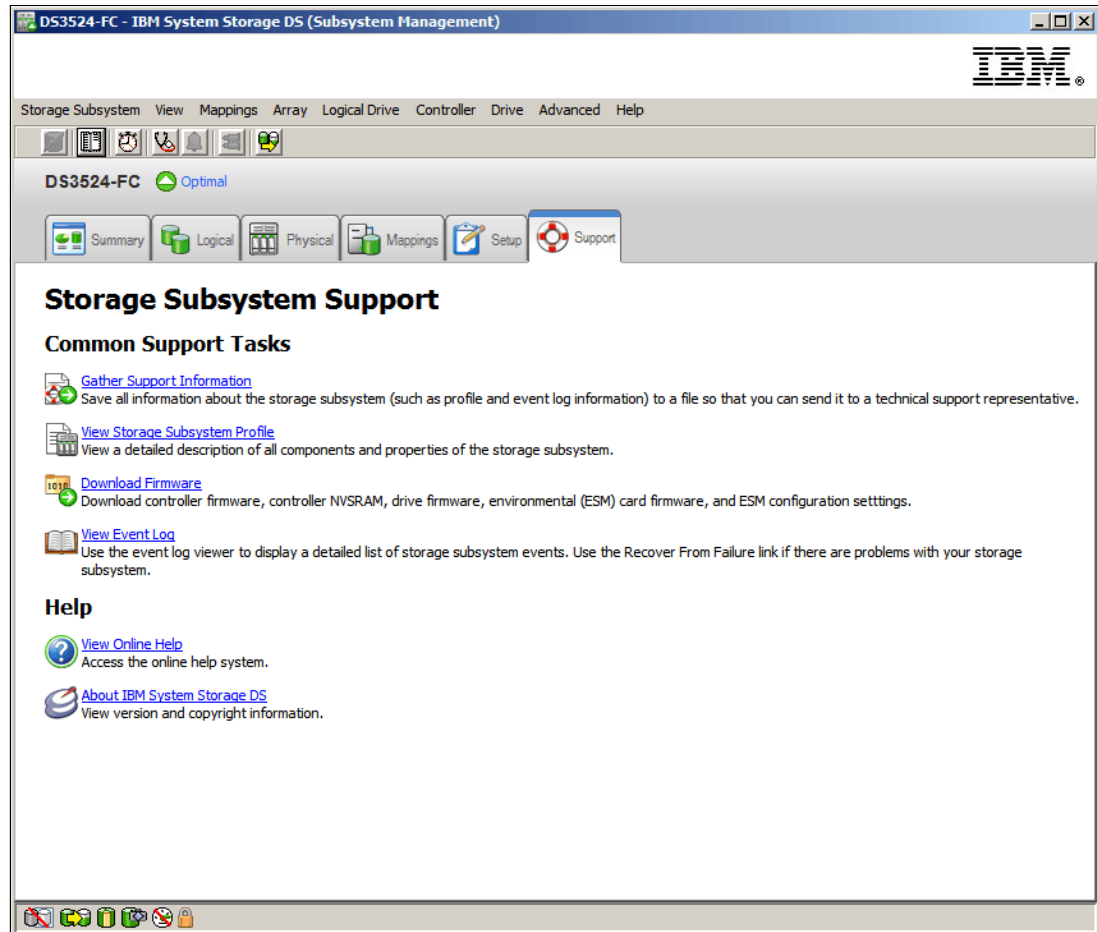
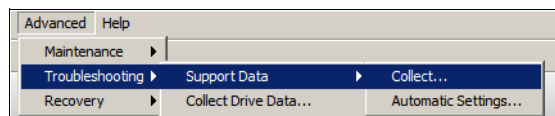
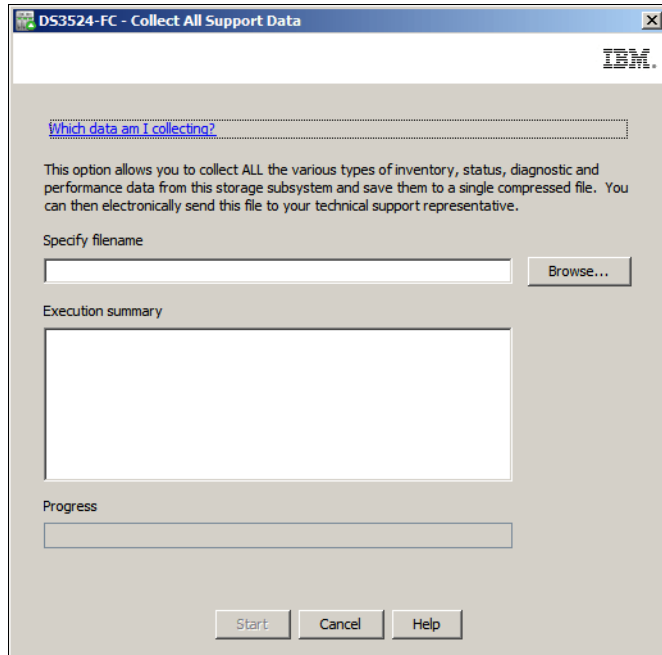
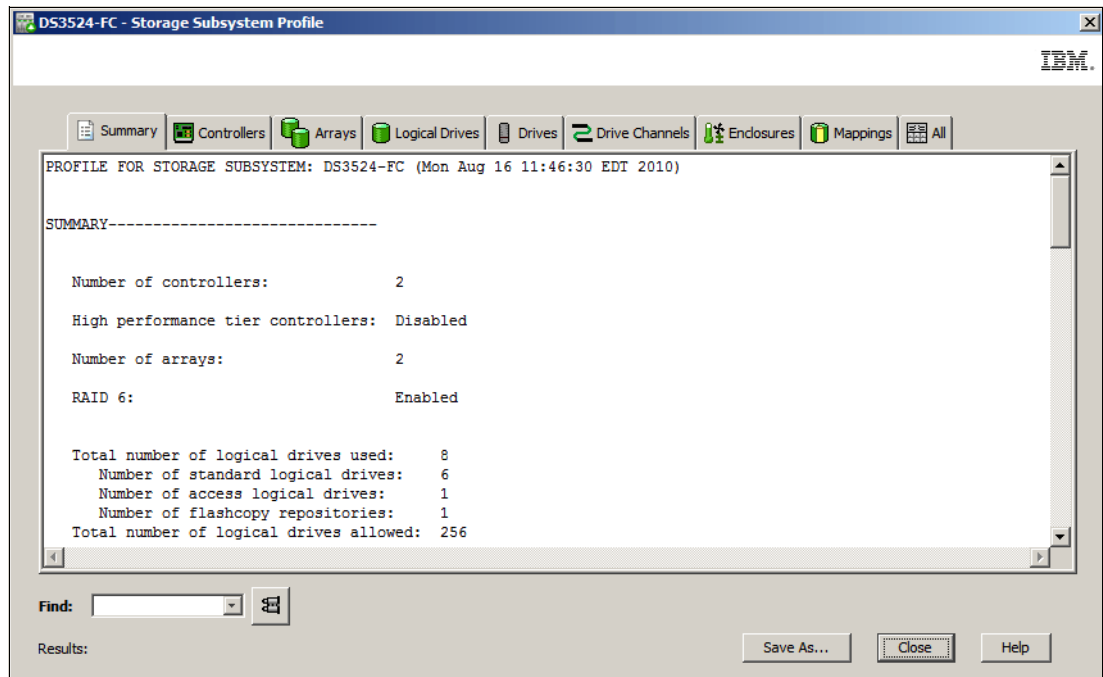

Figure 14-1 The DS Storage Manager (Subsystem Management) Support Tab
Figure 14-2 Open the Collect All Support Data window from the Advanced menu
Figure 14-3 Collect All Support Data window
Figure 14-15 The default view when viewing the DS3500 Storage Subsystem Profile
In this section we introduce the main support functions that are accessed from the DS Storage Manager (Subsystem Management) support tab (Figure 14-1).
The Support tab (Figure 14-1) provides links to the following support functions:
- Click the **Gather Support Information** link in the main Support tab (Figure 14-1 on page 330) to open the **Collect All Support Data** window (Figure 14-3 on page 332).
- Click **Advanced** → **Troubleshooting** → **Support Data** → **Collect** as shown in Figure 14-2 to open the **Collect All Support Data** window (Figure 14-3 on page 332).
1. Click **View Storage Subsystem Profile** in the Support tab (Figure 14-1 on page 330). The Storage Subsystem Profile window appears as shown in Figure 14-15 on page 339.
5. After the profile is saved, click **Close** (in Figure 14-15 on page 339) to return to the Support tab.